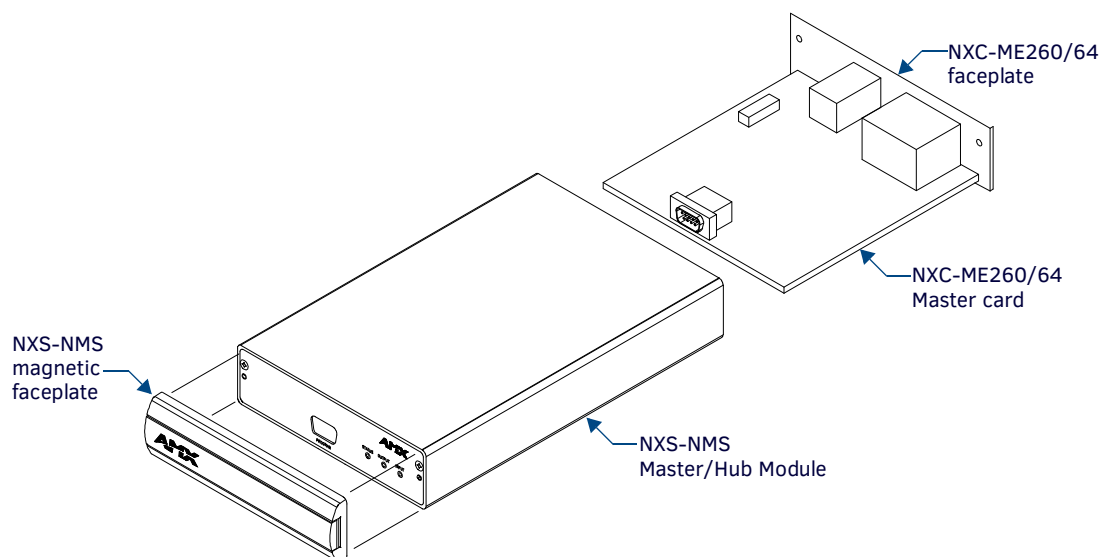

FIG. 2 Component locations on both NXC-ME260/64 and NXS-NMS
- Pull-away the magnetic faceplate from the front of the NXS-NMS. This exposes the front panel LEDs and Program port opening (FIG. 2).
1. Grasp the NXC-ME260/64 by the faceplate and direct the Program port (on the front of the card) into the opening on the rear of the NXS-NMS (FIG. 2).